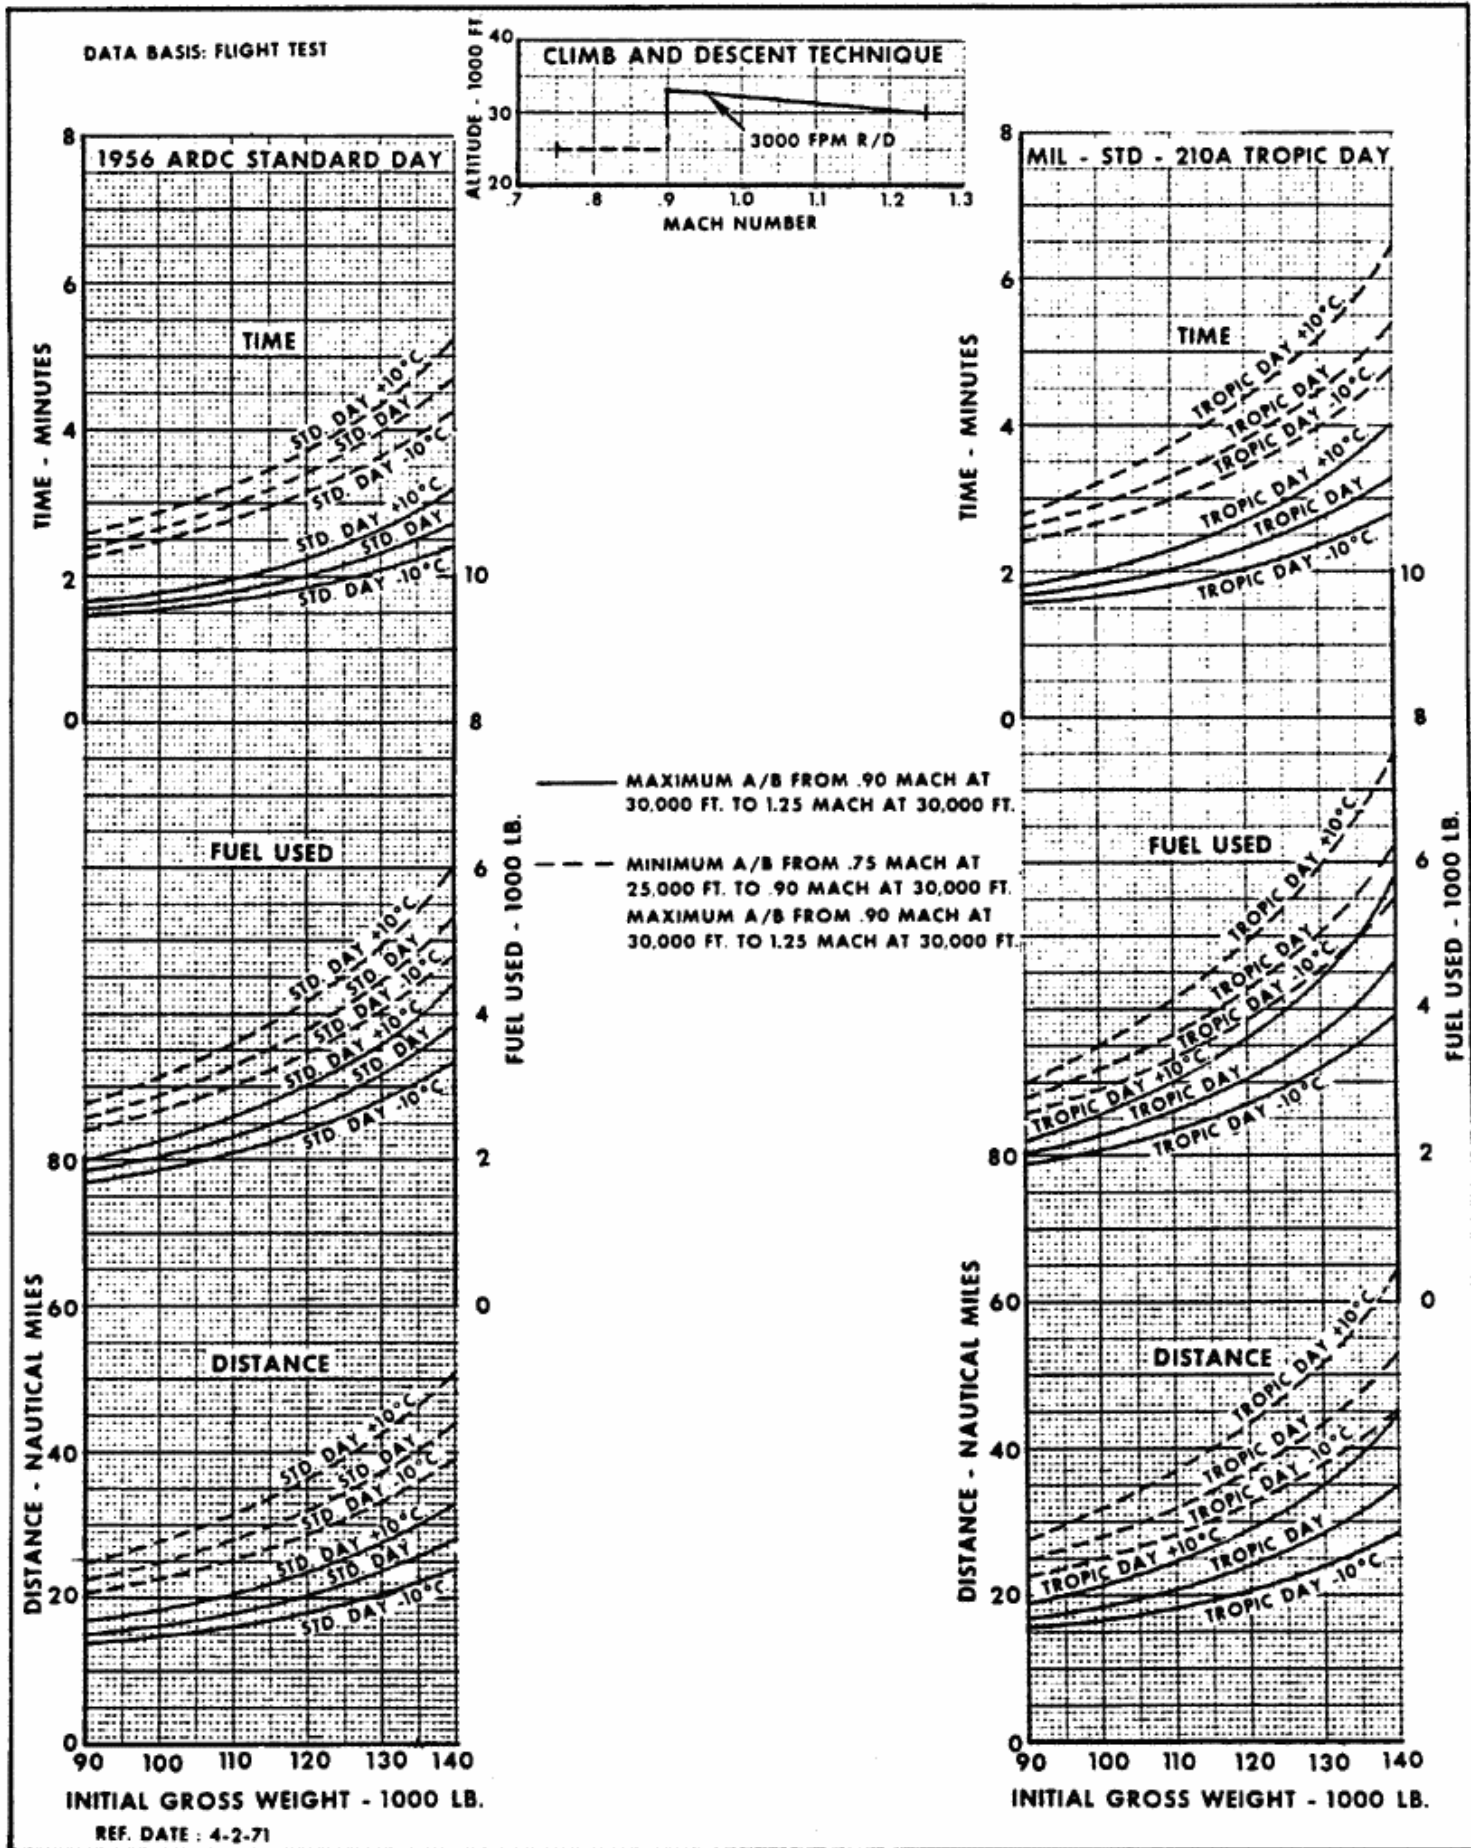
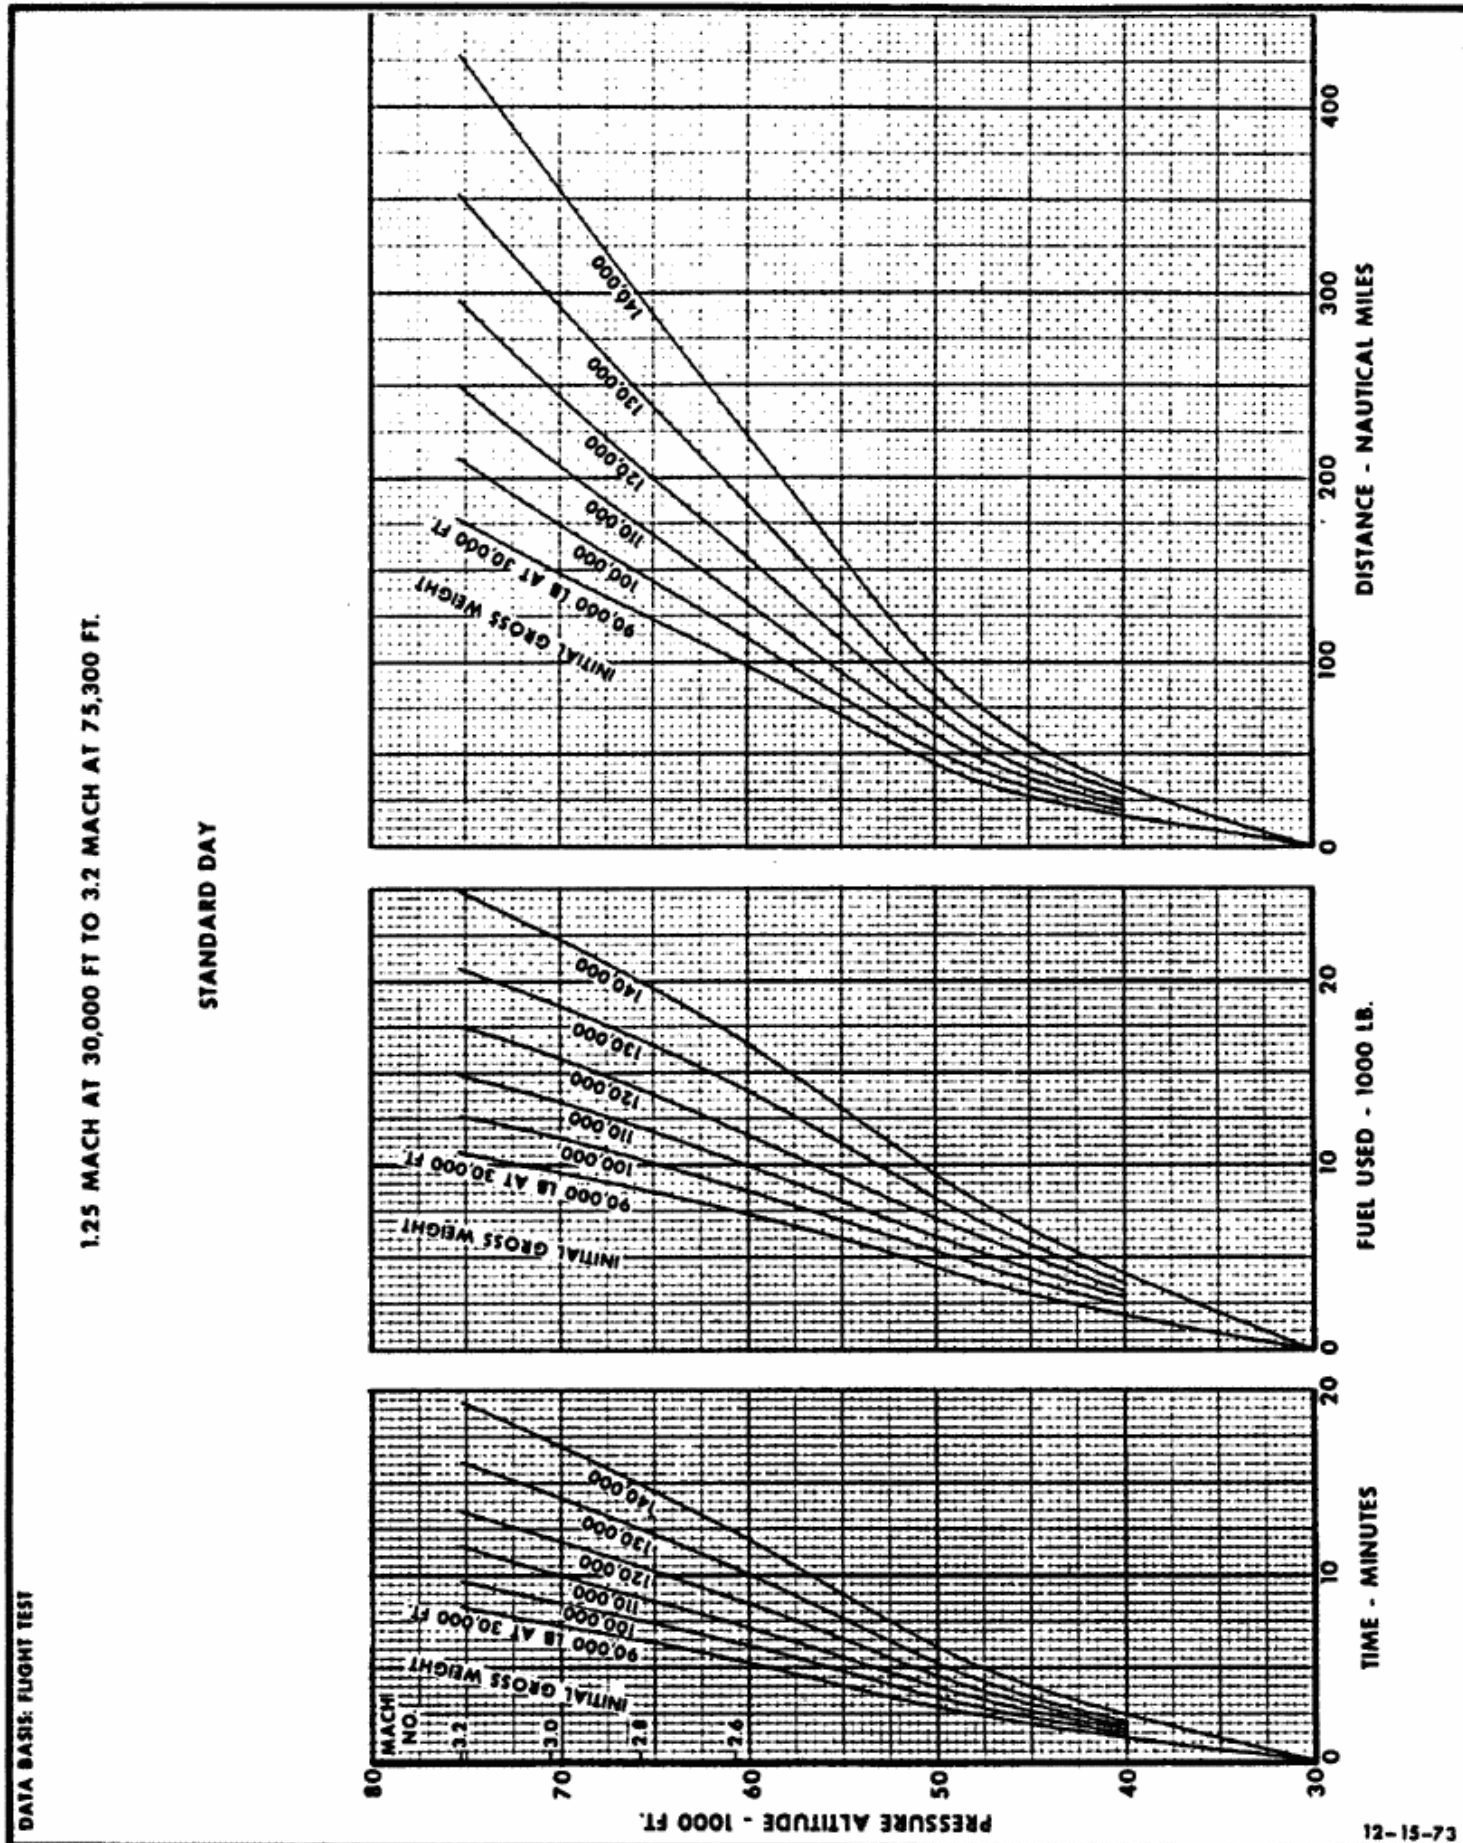

Figure A3-5
Figure A3-11
1. Climb-and-descent: Climb at Mach 0.90 from 30,000 feet to 33,000 feet, and then descend at 3000 fpm to Mach 1.25 at 30,000 feet. (See Figure A3-5.)
Performance for the supersonic climbing acceleration is provided by Figures A3-11 through A3-16. Data is provided for standard and tropic atmospheres including temperature deviations of +10°C. Enter the chart with the end-of-transonic acceleration weight determined from Figures A3-5 through A3-8.